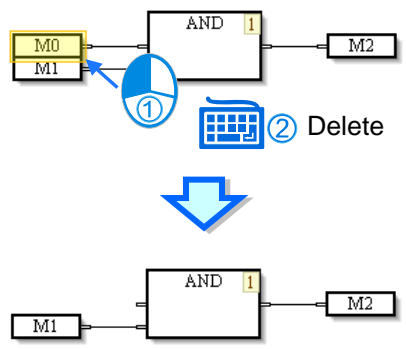

Figure 12-35 Deleting an object
(3) The users have to click an object, and press Delete on the keyboard, as shown in figure 12-35